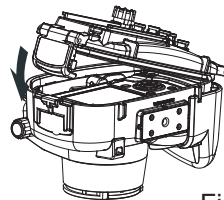

Fig.2
2. Make sure that there is not dust or scratches on the O-ring / O-ring mating surface before closing the rear cover. Take the hand strap out, press the rear cover, and then put the buckle over the front case (Fig.2).